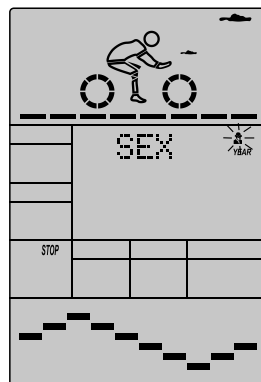

Fig 38
- F. The weight display will flash, and then press (or rotate) button UP/DOWN to set up your weight. Press ENTER to confirm the value. (Fig 38)